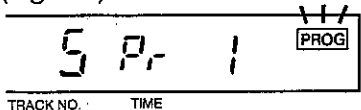

Fig. 13b
3. Press "5". The TRACK NO. display shows "5". (Fig. 13b)